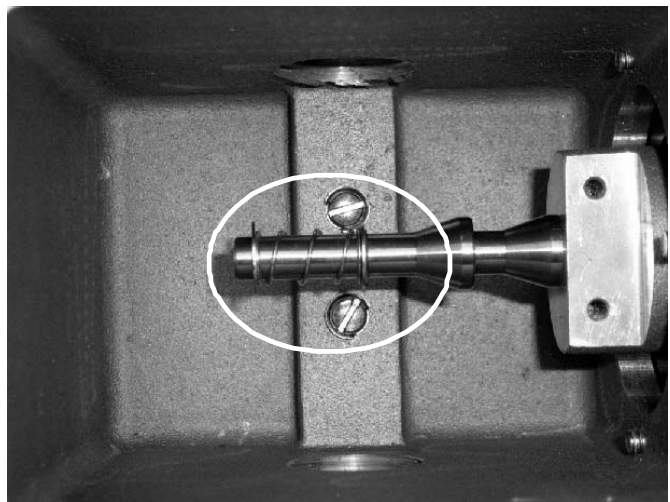

Figure 10: Switch assembly, spring retainer, spring with washers and machine screws with washers.
6. Remove flag connectors and crimp onto wires (see figure 10).